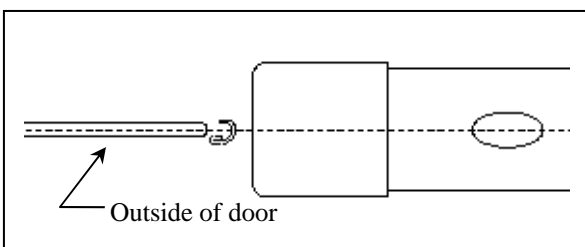

Fig. 1-5
**⚠ NOTE:** BEFORE PROCEEDING IT IS EXTREMELY IMPORTANT TO PROPERLY ALIGN THE DOOR EDGE, DOOR EDGE GUARD CHANNEL AND MALLET AS SHOWN IN FIG. 1-5. MALLET TECHNIQUE IS VITAL FOR PROPER INSTALLATION: